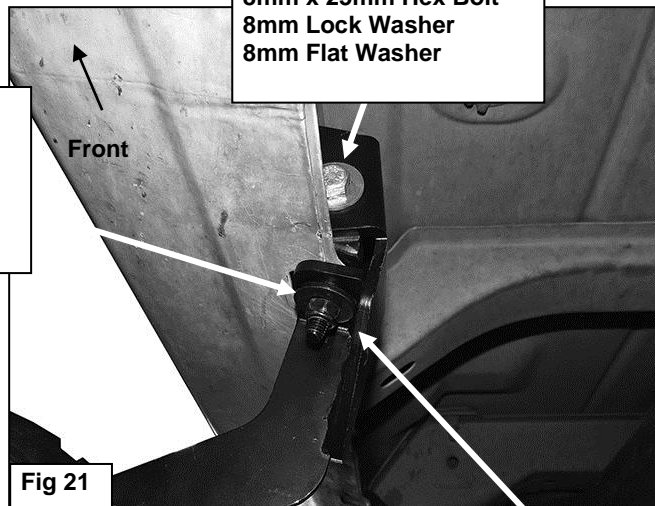

Fig 21
- b. **Models with flat tab and hole:** Insert the 8mm Bolt Plate down through the hole in the Upper Bracket and mounting tab, (Figures 15 & 16). Attach the Lower Bracket to the bottom of the body and Bolt Plate with (1) 8mm Flat Washer and (1) 8mm Nylon Lock Nut, (Figure 21). Leave loose at this time.